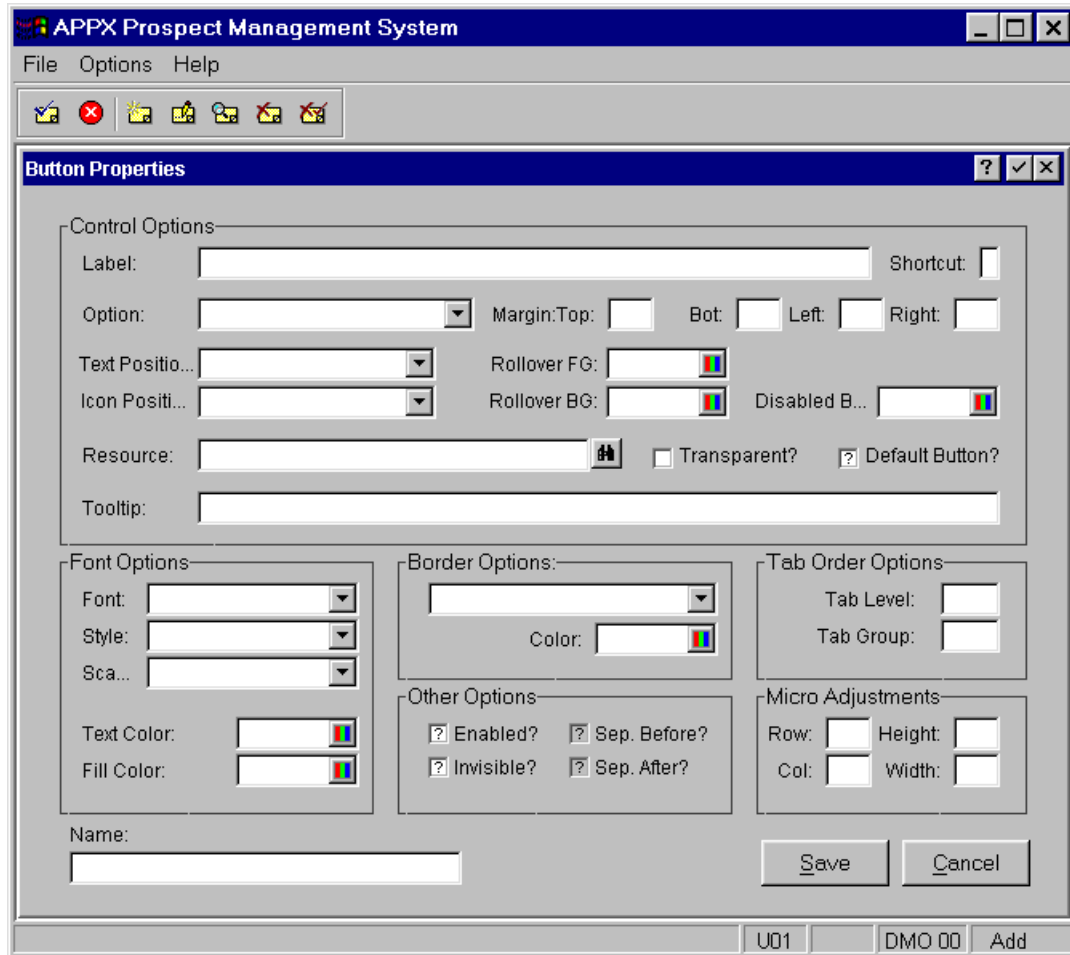

Figure E3.17 – Button Properties Screen
- You decide to add the **OK** button first. Begin by selecting the button tool () on the toolbar. Then, position the mouse pointer to the point on the screen image where you would like to place the top left corner of the **OK** button, click, and, holding the left mouse button down, drag out a rectangle representing the approximate size you would like for the button. Release the mouse button and the **Button Properties** screen will be displayed (*Figure E3.17 below*).